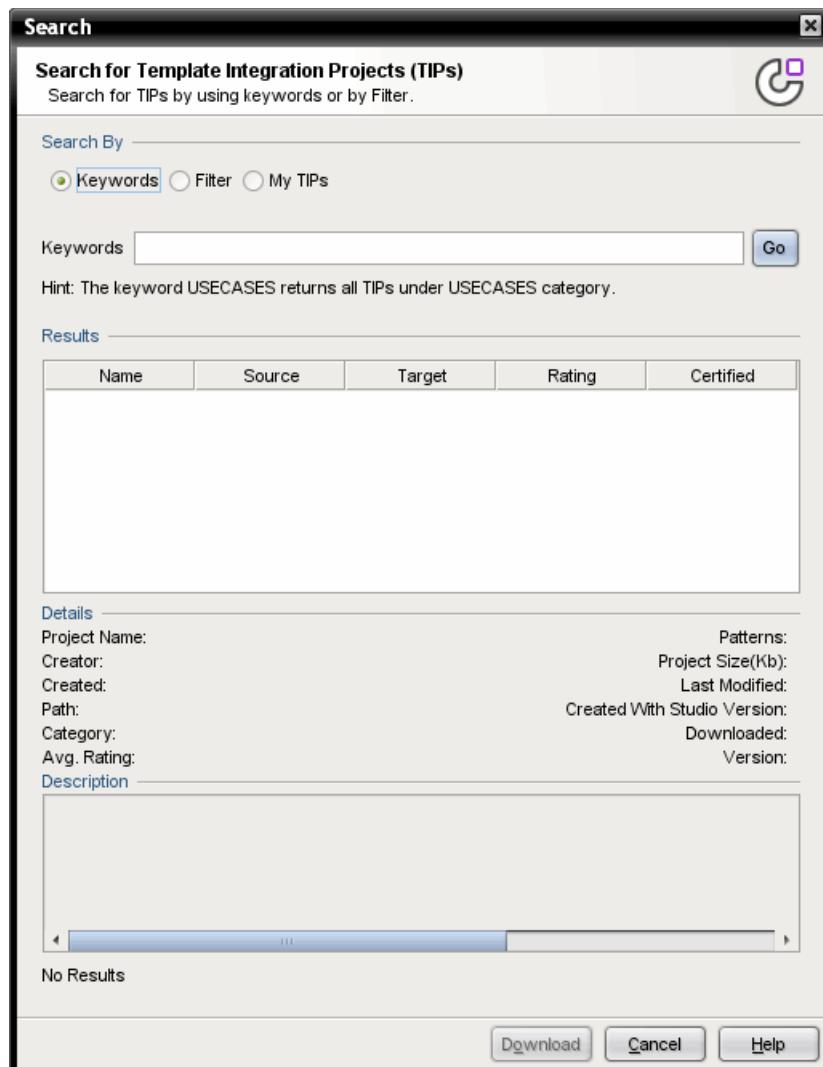

Figure 7-21 Search for TIPs
3. In the Search window, shown in Figure 7-21, you can enter the criteria for your search.
- Details: Provides the metadata for the TIP as shown in Figure 7-21 on page 309.